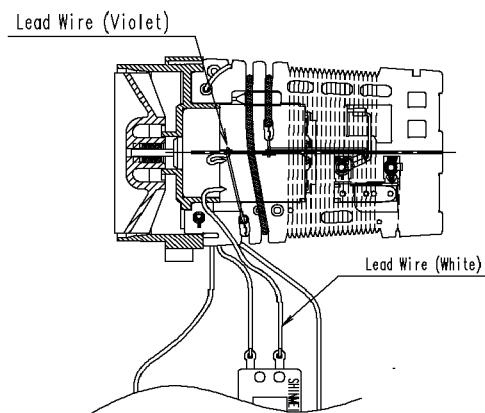

Figure 5
2. Solder lead wire White and lead wire Violet into Heater B/K as shown in Figure 5.